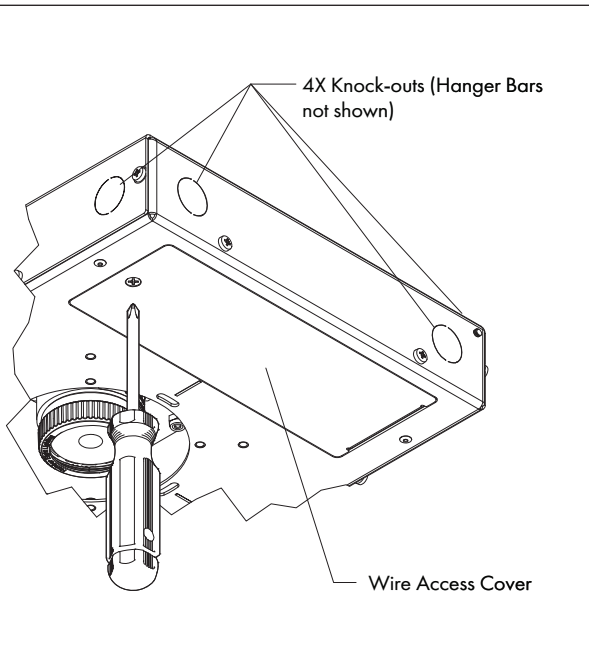

FIG 11.1 Wire Access
STEP 1 Loosen screw, open Wire Access Cover, and locate supply wiring – **FIG 11.1 and 11.2.**
STEP 2 Remove available knock-out in housing and attach supply wire using suitable wire connector - **FIG 11.1 and 11.2.**
STEP 4 Install all wiring and connections completely inside wiring compartment - **FIG 11.1 and 11.2.**
STEP 5 Replace and secure Wire Access Cover - **FIG 11.1.**